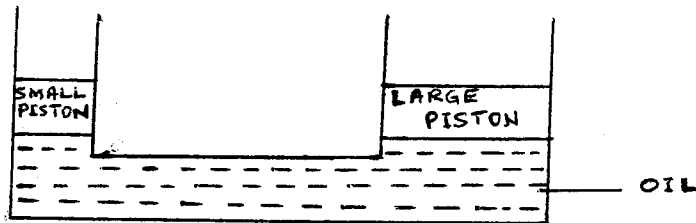

Fig.1(b)
b. In the hydraulic press shown in Fig.1(b), a force of 100 N is exerted on the small piston. Determine the upward force on the large piston. The area of the small piston is $50 \times 10^2 \text{ mm}^2$ and the area of the large piston is $500 \times 10^2 \text{ mm}^2$. Also find the distance moved by the large piston if the small piston moves by 100 mm.